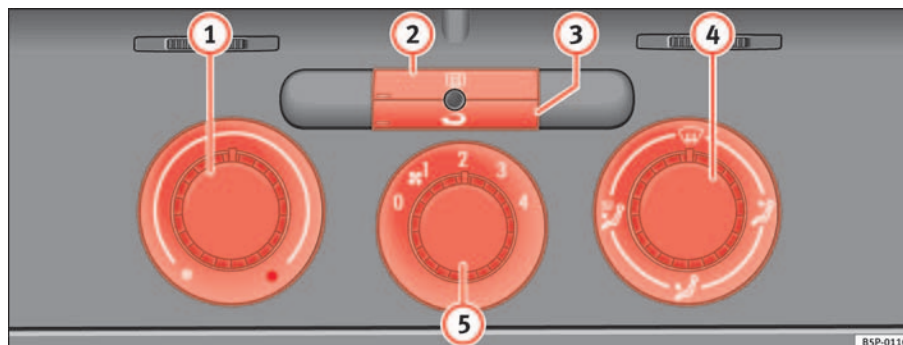

Fig. 122 On the dash panel: Heater controls
- Using the controls ⇒ fig. 122 ①, ④ and ⑤ you can set the temperature, air distribution and the air flow.
- To switch a function on or off, press the appropriate button ② or ③. When the function is activated, the display window in the lower left of the button is lit.